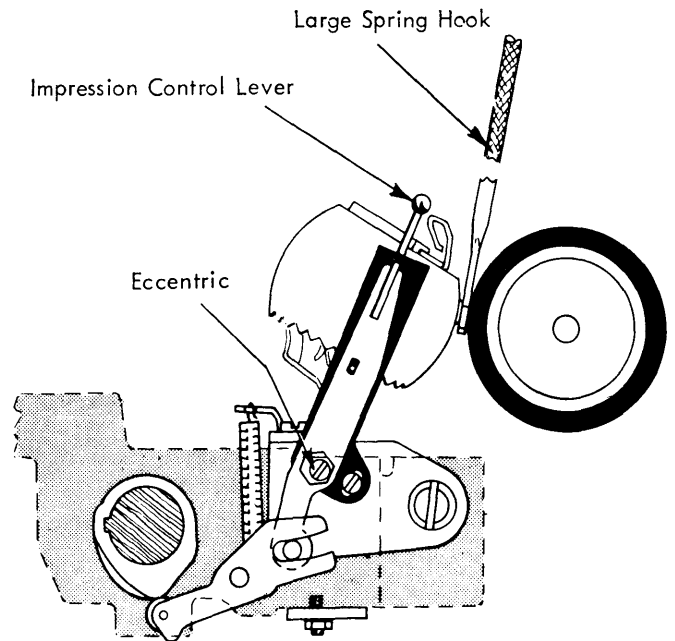

FIGURE 93. Free Flight
13. Free Flight - Set the impression control lever at 4 and then hand-cycle the machine until the print cam follower roller is resting on the high point of the print cam. At this point .035" of free flight should exist between the platen and the center of the letter "Z". Adjust the eccentric on the impression control lever to obtain this condition (Fig. 93). Keep the high part of the eccentric forward.